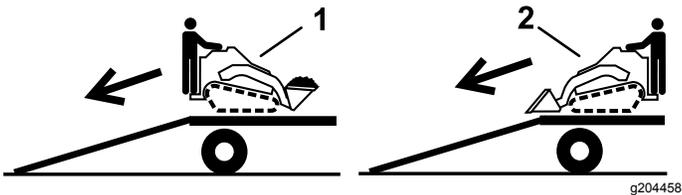

**Figure 29**
8. Use the metal tie-down loops on the machine to securely fasten the machine to the trailer or truck with straps, chains, cable, or ropes (Figure 29). Refer to local regulations for tie-down requirements.
You can lift the machine using the tie-down/lift loops as lift points; refer to Figure 29.